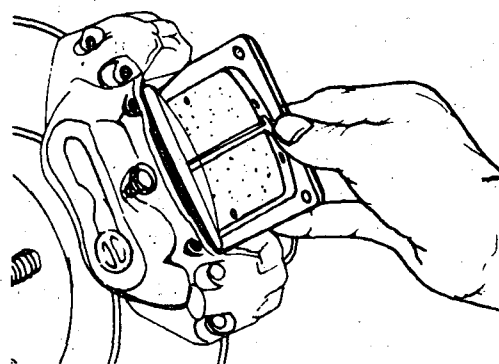

Fig. 9
- b) Place the braking pads in their position (fig. 9) and replace the retaining clips and bolts.